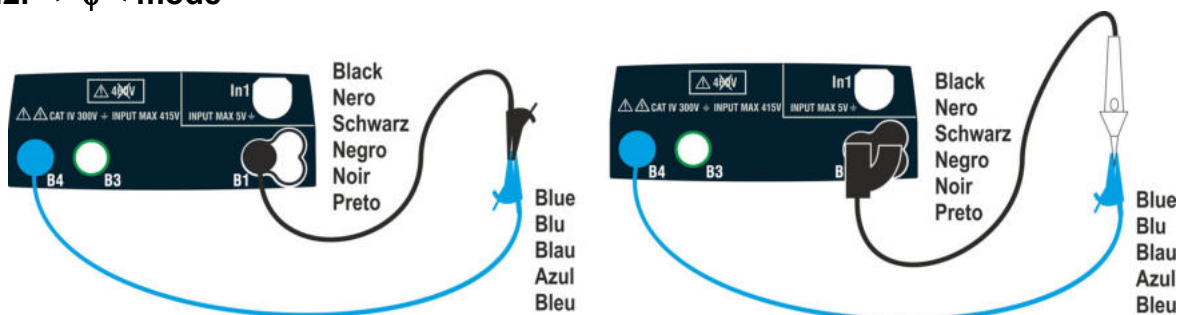

Fig. 10: Compensation of single cables and remote switch probe resistance
2. Connect the alligator clips and/or test leads and/or remote switch probe to the conductor to be tested as indicated in Fig. 10